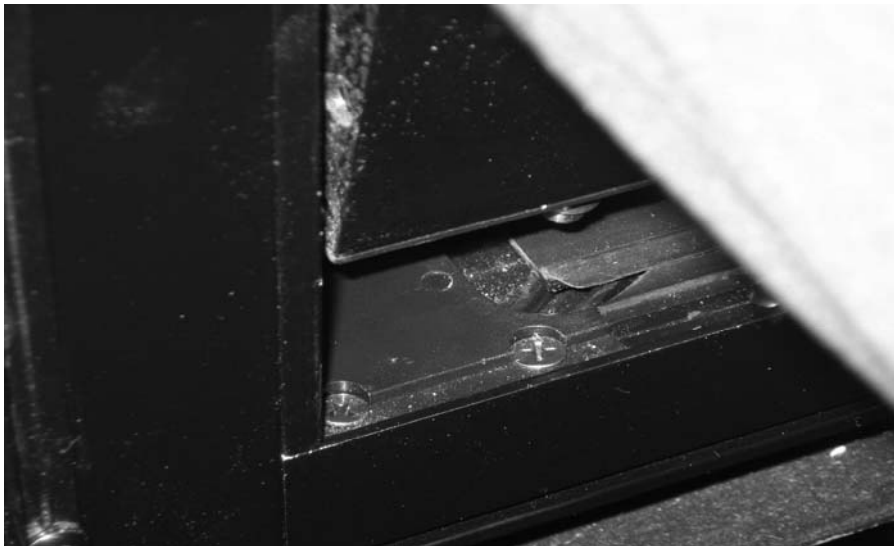

FIGURE 45: POSITIONING THE LOWER LEFT CORNER OF THE SASH
2. Position the left hand lower corner of the sash over the front cam follower block (Figure 45)